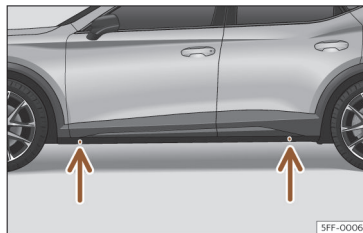

Fig. 243 Jack position points.
- Look on the crossbar for the mark of the jack support point (sunken area) closest to the wheel to be changed >>> **Fig. 243**.